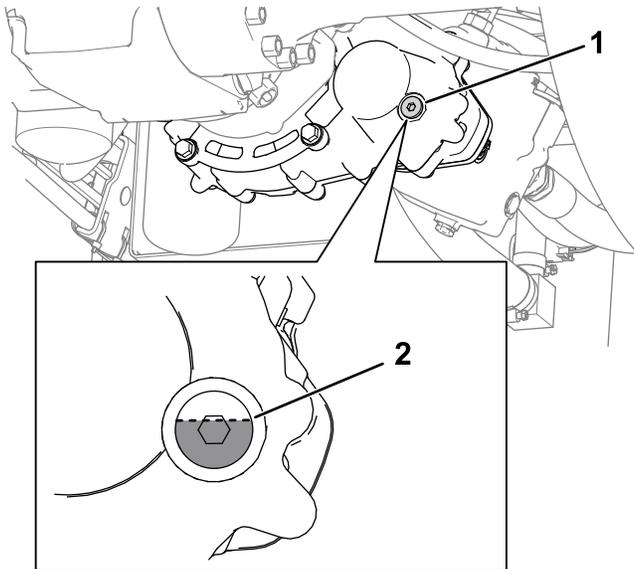

Figure 110
1. Check the oil level as viewed through the sight plug; ensure that the oil level is slightly above the midpoint of the sight plug as shown in Figure 110.